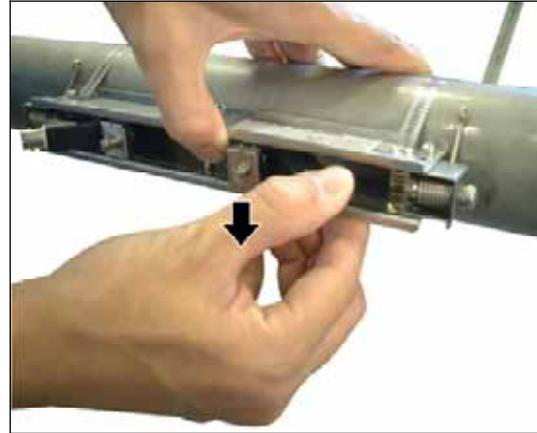

Fig. 3-41
- (3) Disengage the opposite claws of the sensor unit pressing fixture from the frame (Fig. 3-41).